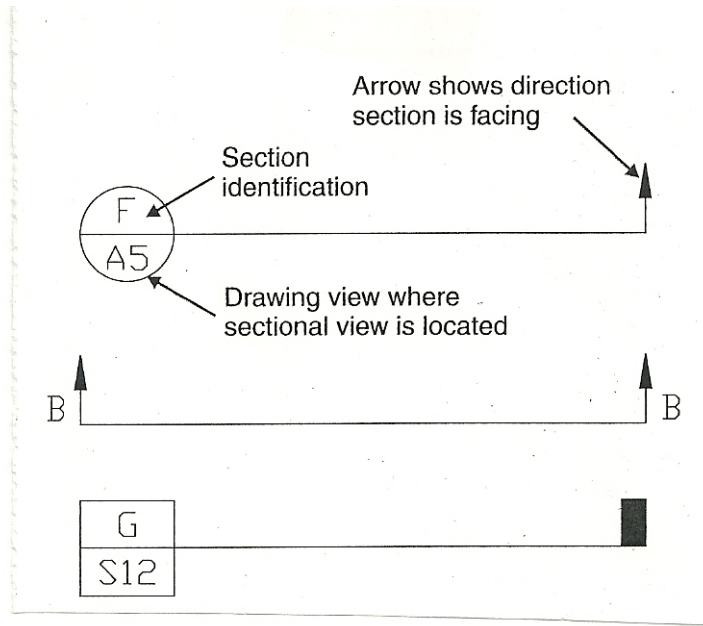

Figure III.4 Section Cutting Lines
- Section cutting lines – Section cutting lines are used with sectional views. See Figure III.4 for an example.